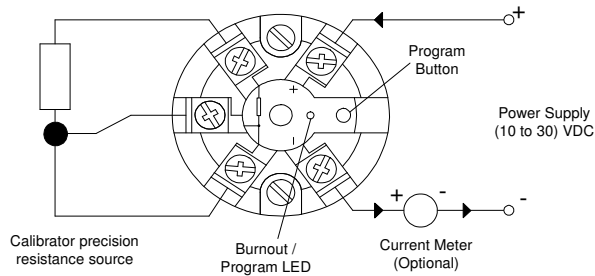

Figure 3 Configuration circuit
- Refer to figure 3, connect resistance box to SEM203P input terminals using three wire connection. Connect output to a DC supply, observe polarity. Turn power on and allow 1 minute warm up period.
- Refer to figure 3, Connect output to a DC supply, observe polarity. For this menu the input can be connected or open circuit. Turn power on.
- Refer to figure 3, connect sensor or resistance box to SEM203P input terminals using three wire connection. Connect output to a DC supply, observe polarity, connect current meter in series with loop. Turn power on and allow 1 minute warm up period.